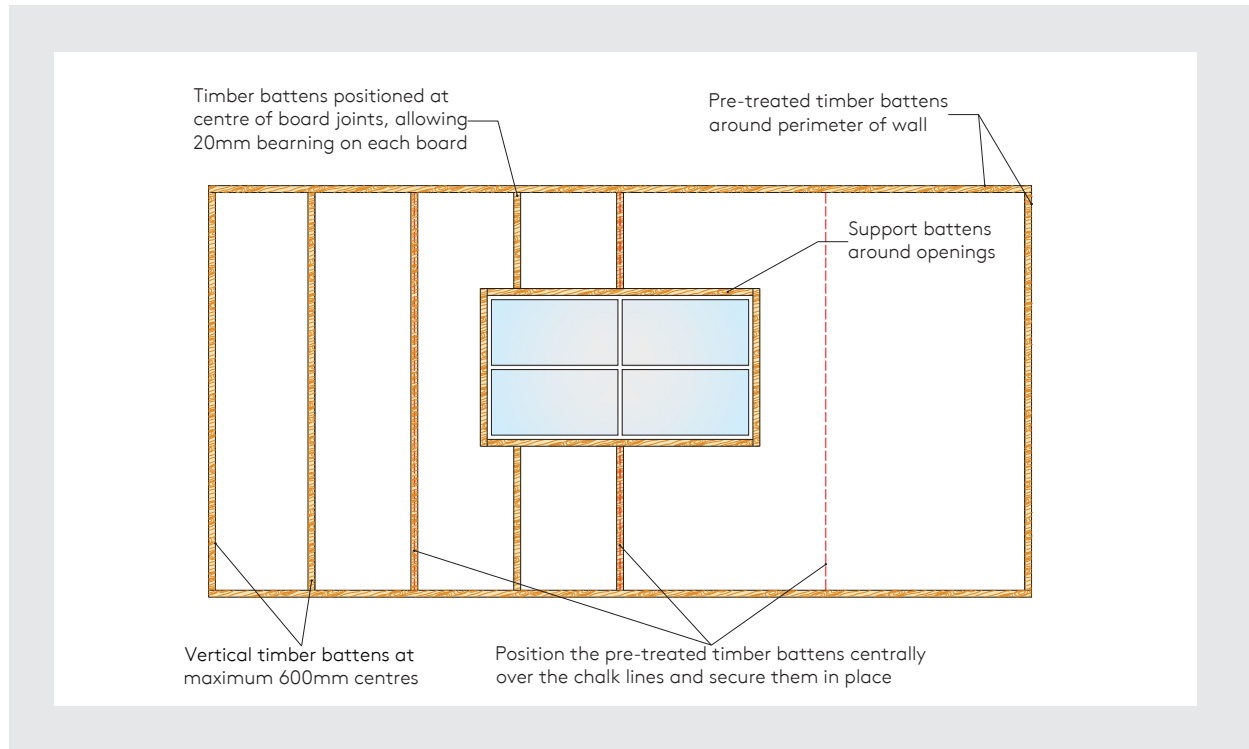

Figure 14
- Battens/Furrings should be fixed vertically at 600 mm centres (max.) to support the boards around the perimeter of the wall, windows and doors and any services which penetrate the system (as shown in Figure 14).